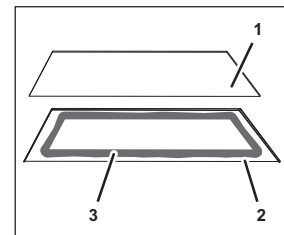

Fig. 25
5. Remove the promotional sign (Fig. 25/1) from the taxi cab hood (Fig. 25/2).
6. Remove any adhesive residue from the taxi cab hood (Fig. 25/2).
7. Apply fresh double-sided tape along the adhesive area (Fig. 25/3) inside the taxi cab hood (Fig. 25/2).
8. Position the promotional sign (Fig. 25/1) within the taxi cab hood (Fig. 25/2).
9. Press the promotional sign (Fig. 25/1) into the taxi cab hood (Fig. 25/2).